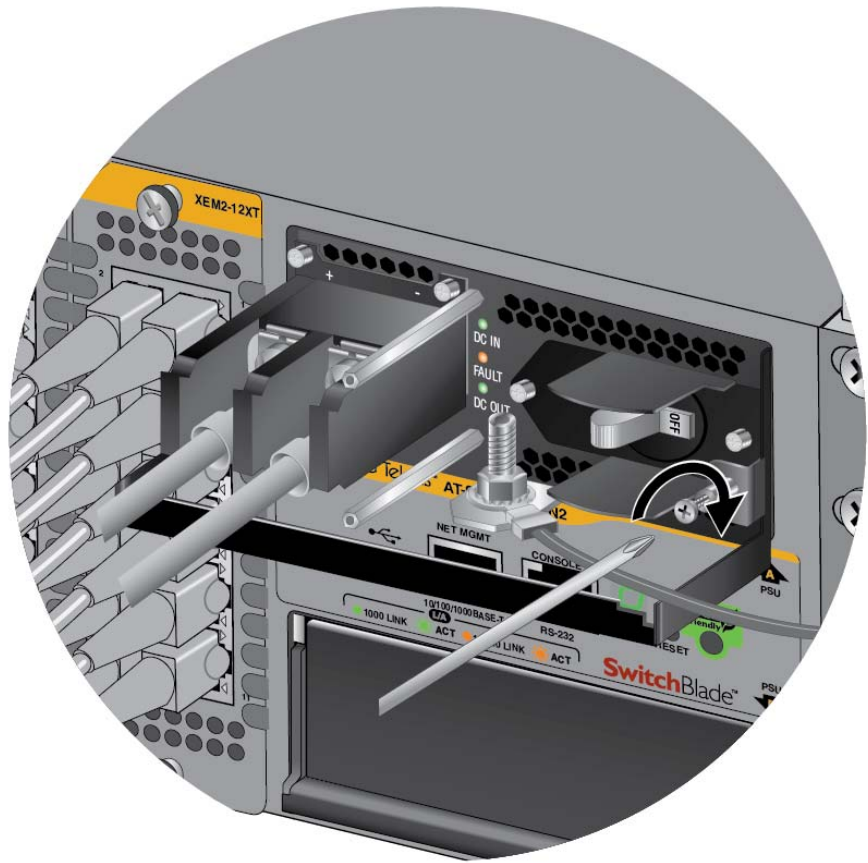

Figure 80. Connecting the Negative (-) Power Wire with a Right Angle Terminal
7. With a #3 Phillips-head screwdriver, connect the negative (-) power lead wire to the negative terminal on the power supply, with the remaining terminal screw removed in step 5. The negative terminal is on the right. Refer to Figure 80 on page 115.